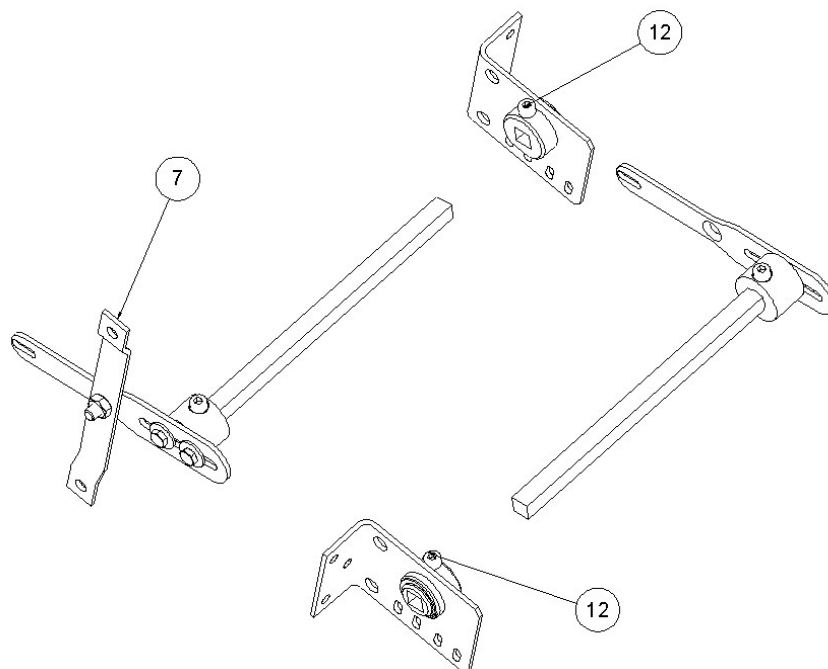

Figure.5
- 5. MOUNTING PLATES AND ARMS JOINT:** Before joining the mounting plates and the arms, it should be checked which is the right plate and which is the left one. The arm with the governor linkage (**7**) must be introduced in the plate of the side where the lift speed governor is placed and the arm without the governor linkage will be introduced in the oder plate. The support cap screw (**12**) must be tightened in order to fix together the mounting plates and the arms - Fig. 5